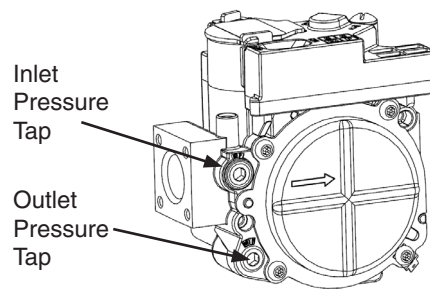

Figure 6 – Pressure tap locations
2. Remove plug from outlet pressure tap\* (see fig. 6). Install hose barb fitting.